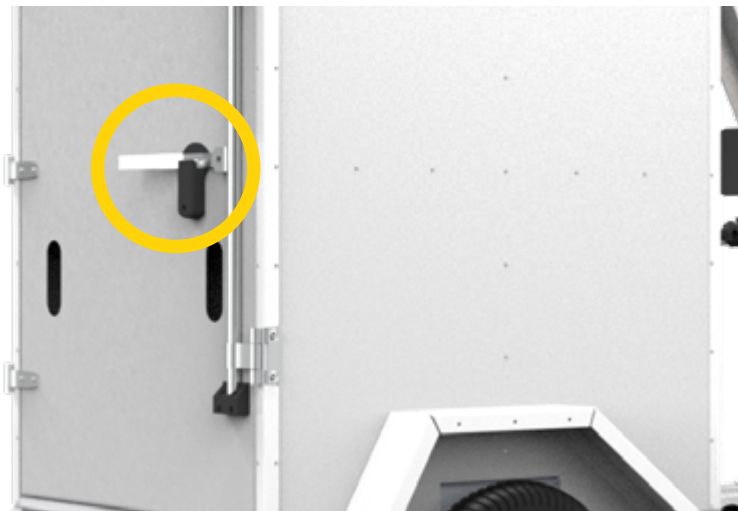

FIGURE 11 : DOOR LOCK WELL CLOSED
Next, pull the black lever of the door lock (23) toward you, lift the door handle lever (22) by turning it upwards and finally turn the door outward. You can refer to figure 11 to perform this procedure.